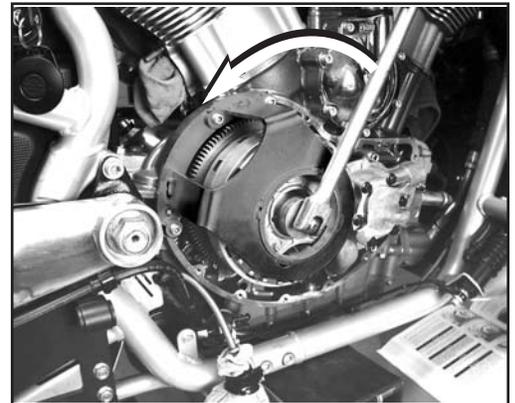

Fig. 2
2. Remove clutch hub nut. **Fig. 2.** Loctite is used to help secure clutch hub nut. Heat may be required to break down the Loctite to loosen nut. Be cautious when applying heat to the clutch hub nut, as excessive heat will damage pressure plate springs. If necessary an impact wrench may be used to loosen nut only (Not for installing). See service manual.